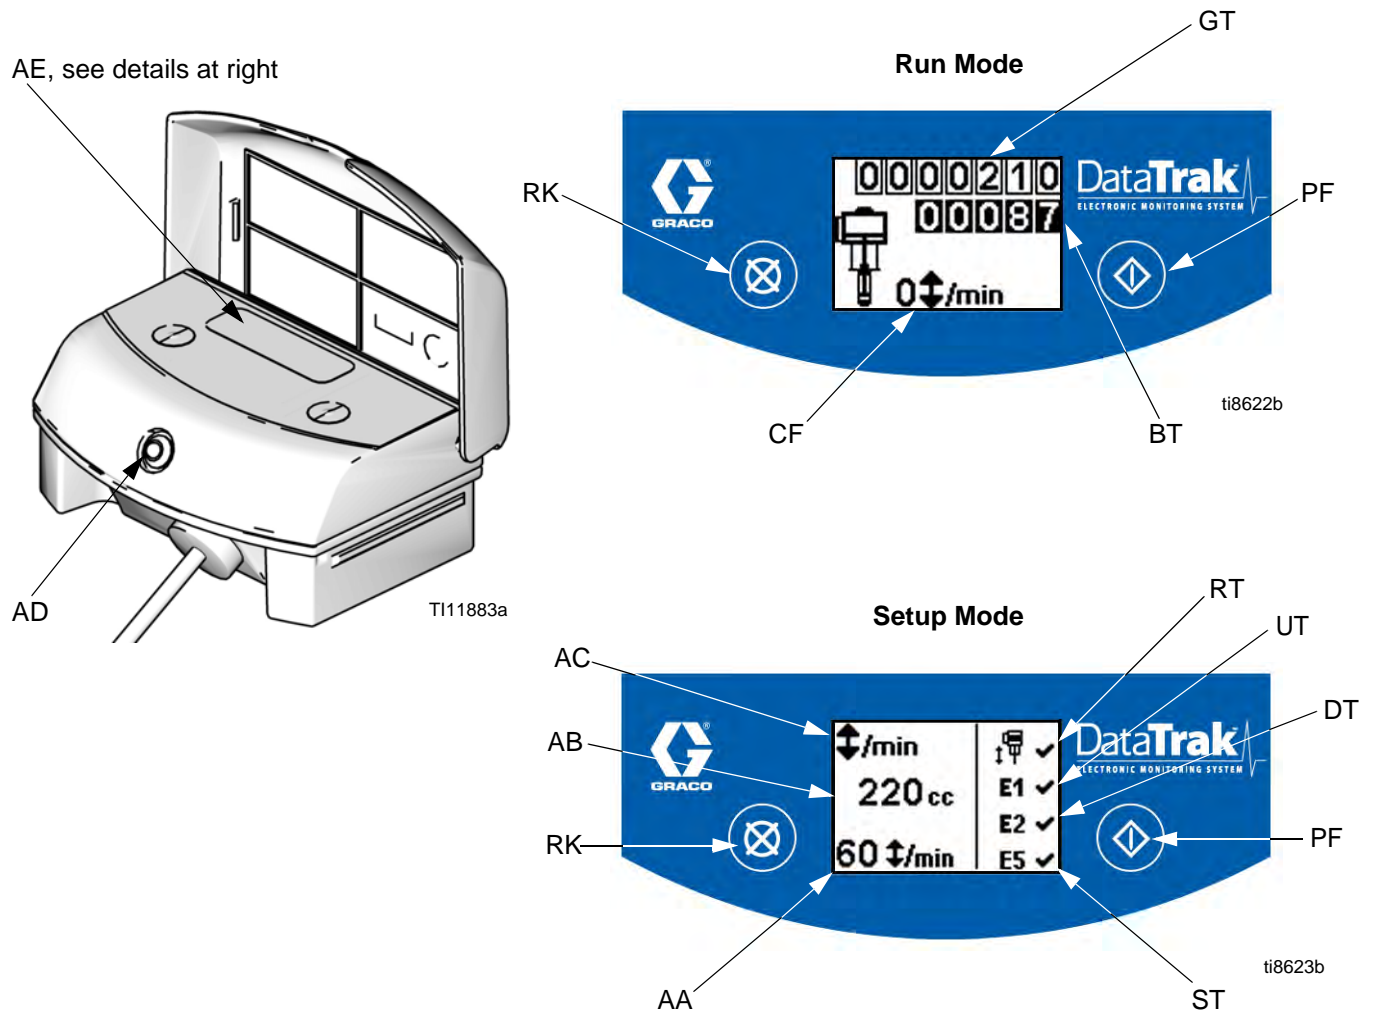

FIG. 7. DataTrak Controls and Indicators
Key for FIG. 7
1. See FIG. 7. Press and hold  for 5 seconds until Setup menu appears.
NOTE: When runaway, E1, E2, and E5 error options are enabled, a  will appear on the setup screen. See FIG. 7.
1. See FIG. 7. If pump runaway occurs, the runaway solenoid will actuate, stopping the pump. The LED (AD) will flash and the display (AE) will indicate a runaway condition (see Table 1). The display will cycle through six instruction screens.
2. Runaway Screens 1 and 2: To reset the runaway solenoid, close the master air valve (E). Wait for air to completely bleed off the air motor.
3. Runaway Screens 3 and 4: After the air is bled off, push the solenoid release button (J) down to reset the air valve. The button will pop back up when the air valve is repressurized.
5. Open master air valve (E) to restart pump.
NOTE: To disable runaway monitoring, go to setup mode and set runaway value to 0 (zero) or toggle (RT) off  (see FIG. 7).
1. See FIG. 7. To enter Prime/Flush mode, press any key to wake up the display, then press . The Prime/Flush symbol will appear in the display and the LED will flash
2. While in Prime/Flush mode, runaway protection is disabled and the batch totalizer (BT) will not count. The grand totalizer (GT) continues to count.
See FIG. 7. The last digit of the batch totalizer (BT) represents tenths of gallons or liters. To reset the totalizer, press any key to wake up the display, then press and hold  for 3 seconds.
See FIG. 7. The display (AE) will turn off after 1 minute of inactivity in Run mode or 3 minutes in Setup mode. Press any key to wake up the display.
DataTrak can diagnose several problems with the pump. When the monitor detects a problem, the LED (AD, FIG. 7) will flash and a diagnostic code will appear on the display. See Table 1.